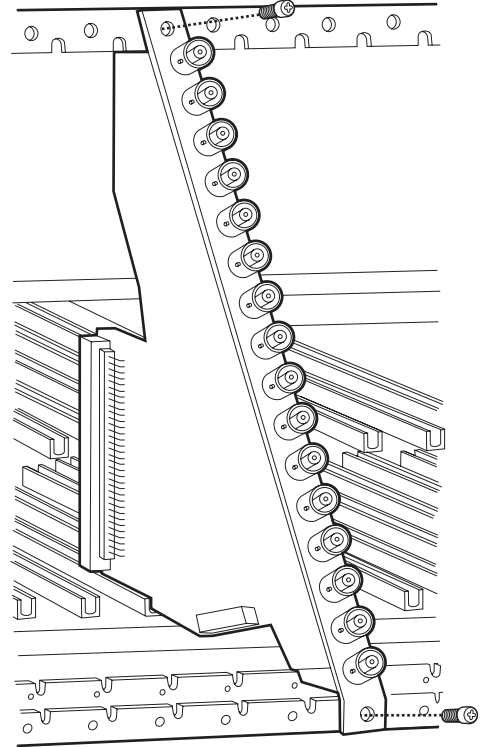

Figure 19. CM9760-RPC Rear Panel Input Card Installation
4. Slide the new card into the card guides (refer to Figure 19).